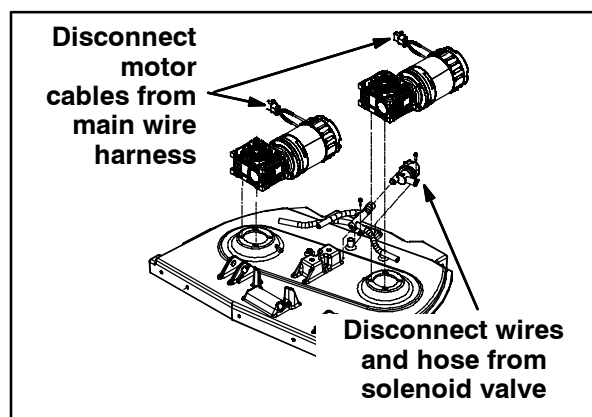

FIG. 1
8. Disconnect the cables from both scrub head drive motors and the wires and hose from the water solenoid valve. Refer to Fig. 1.
5. Connect all hoses, wires, and cables disconnected from the old scrub head to the new scrub head (1). Refer to Fig. 1.
6. Install the brushes onto the scrub head (1).